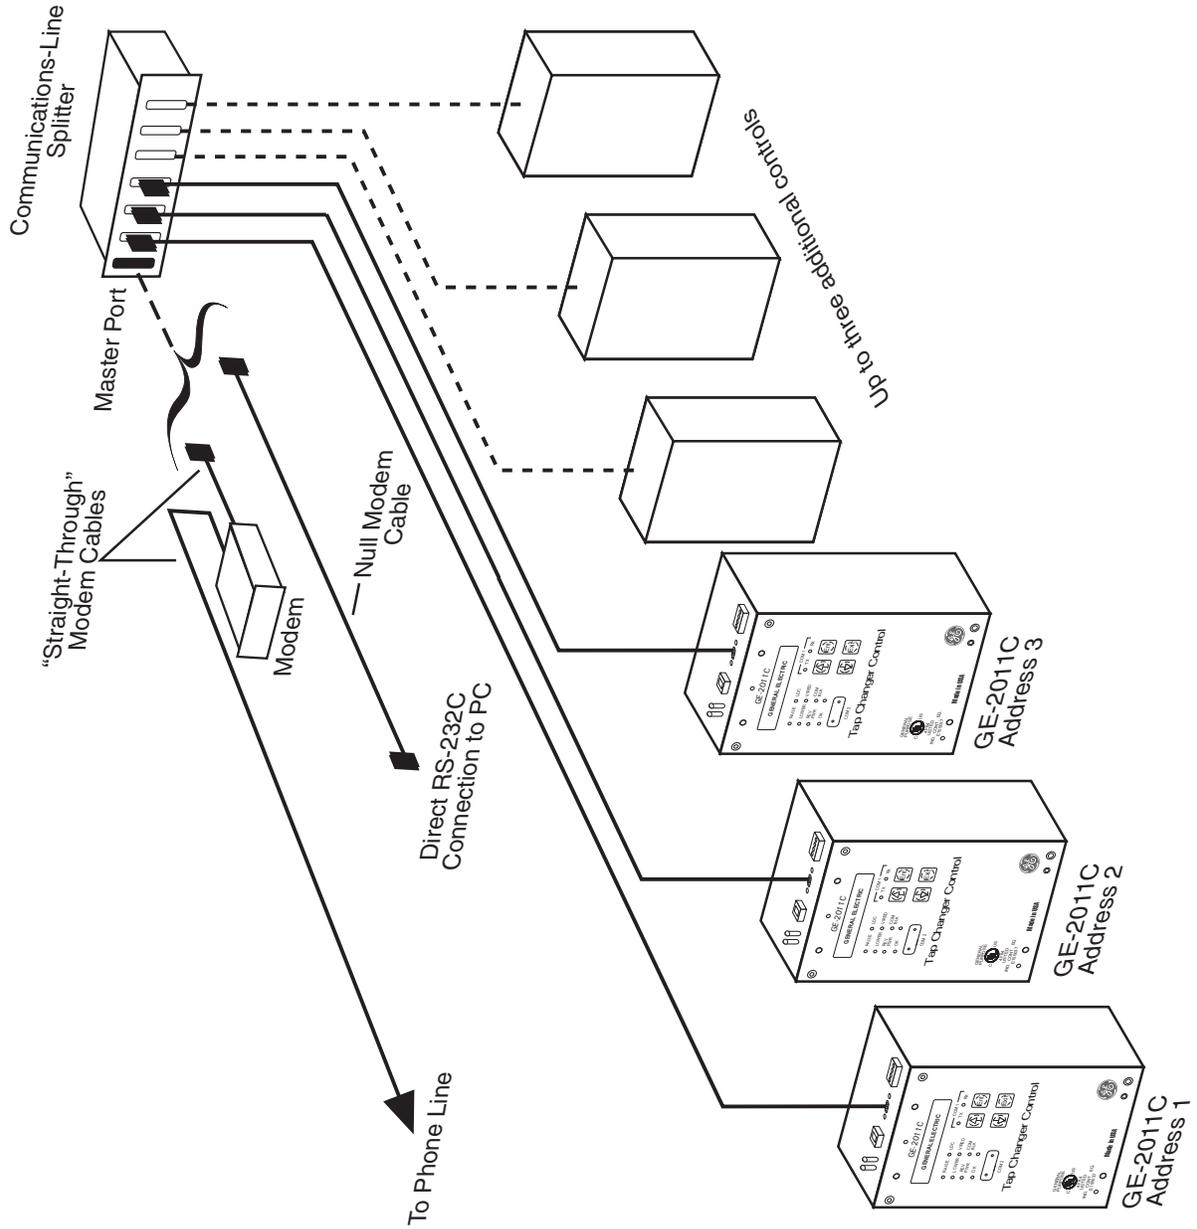
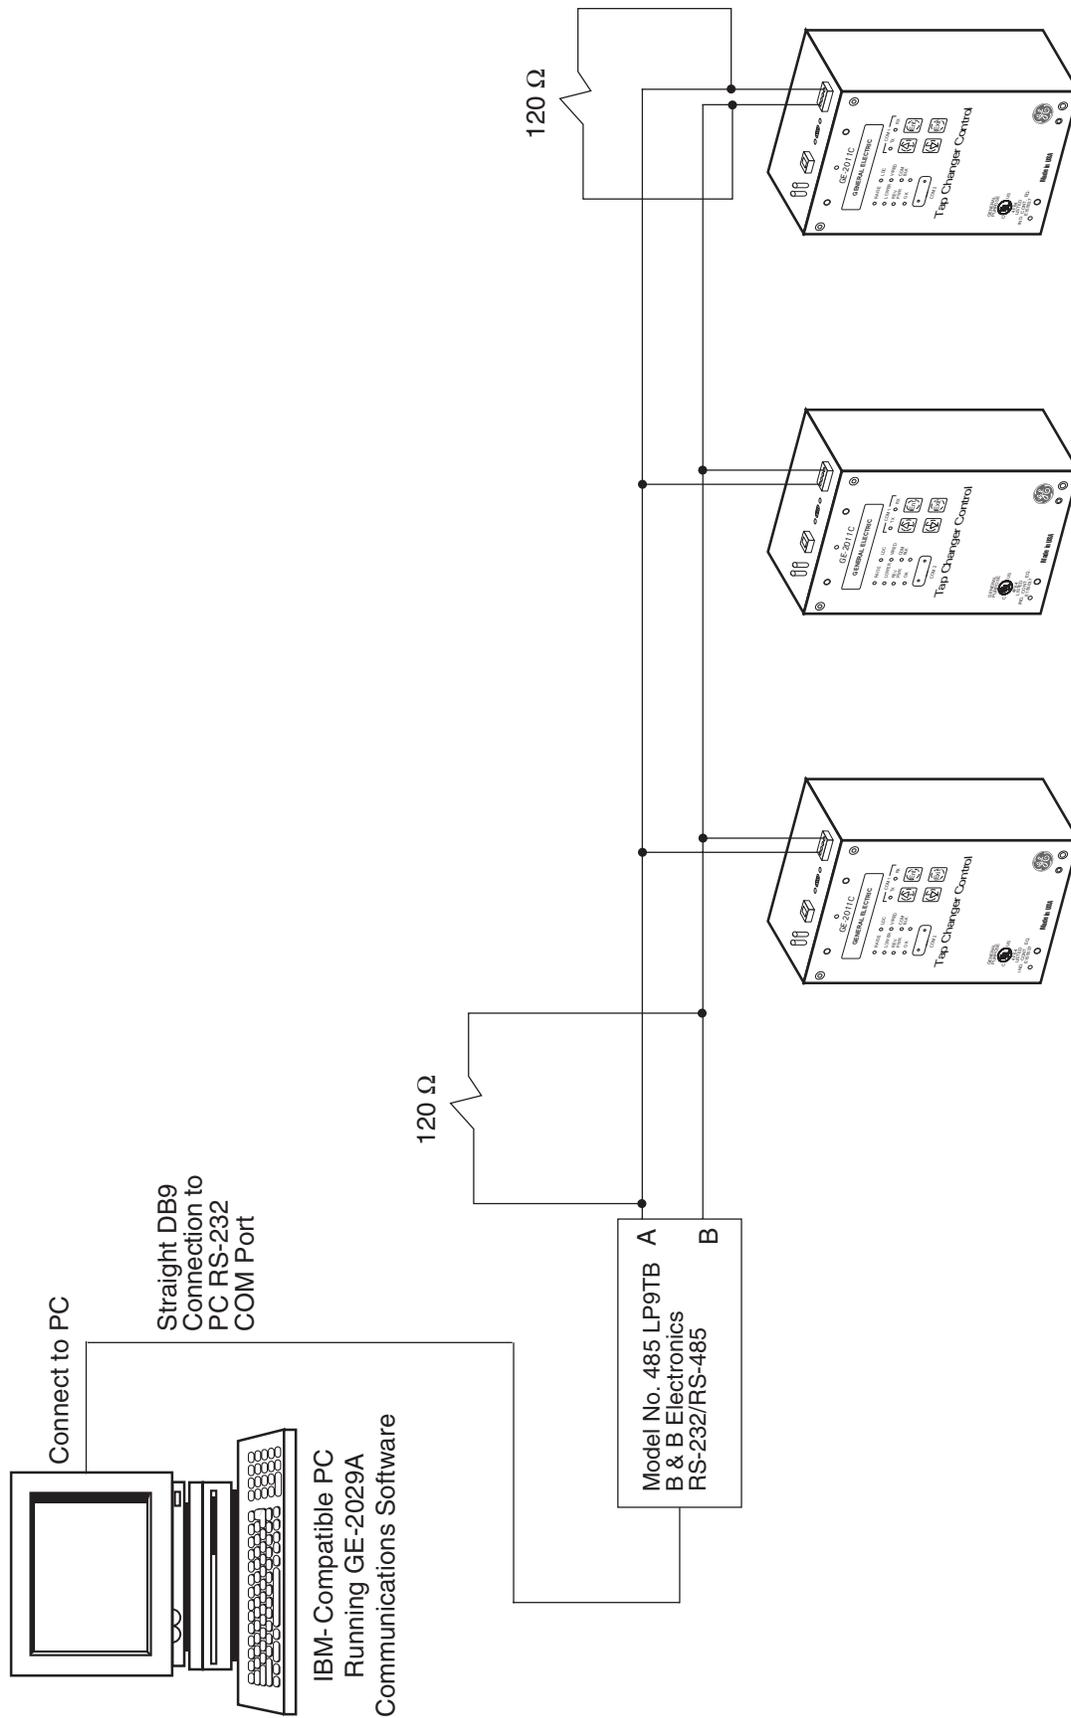
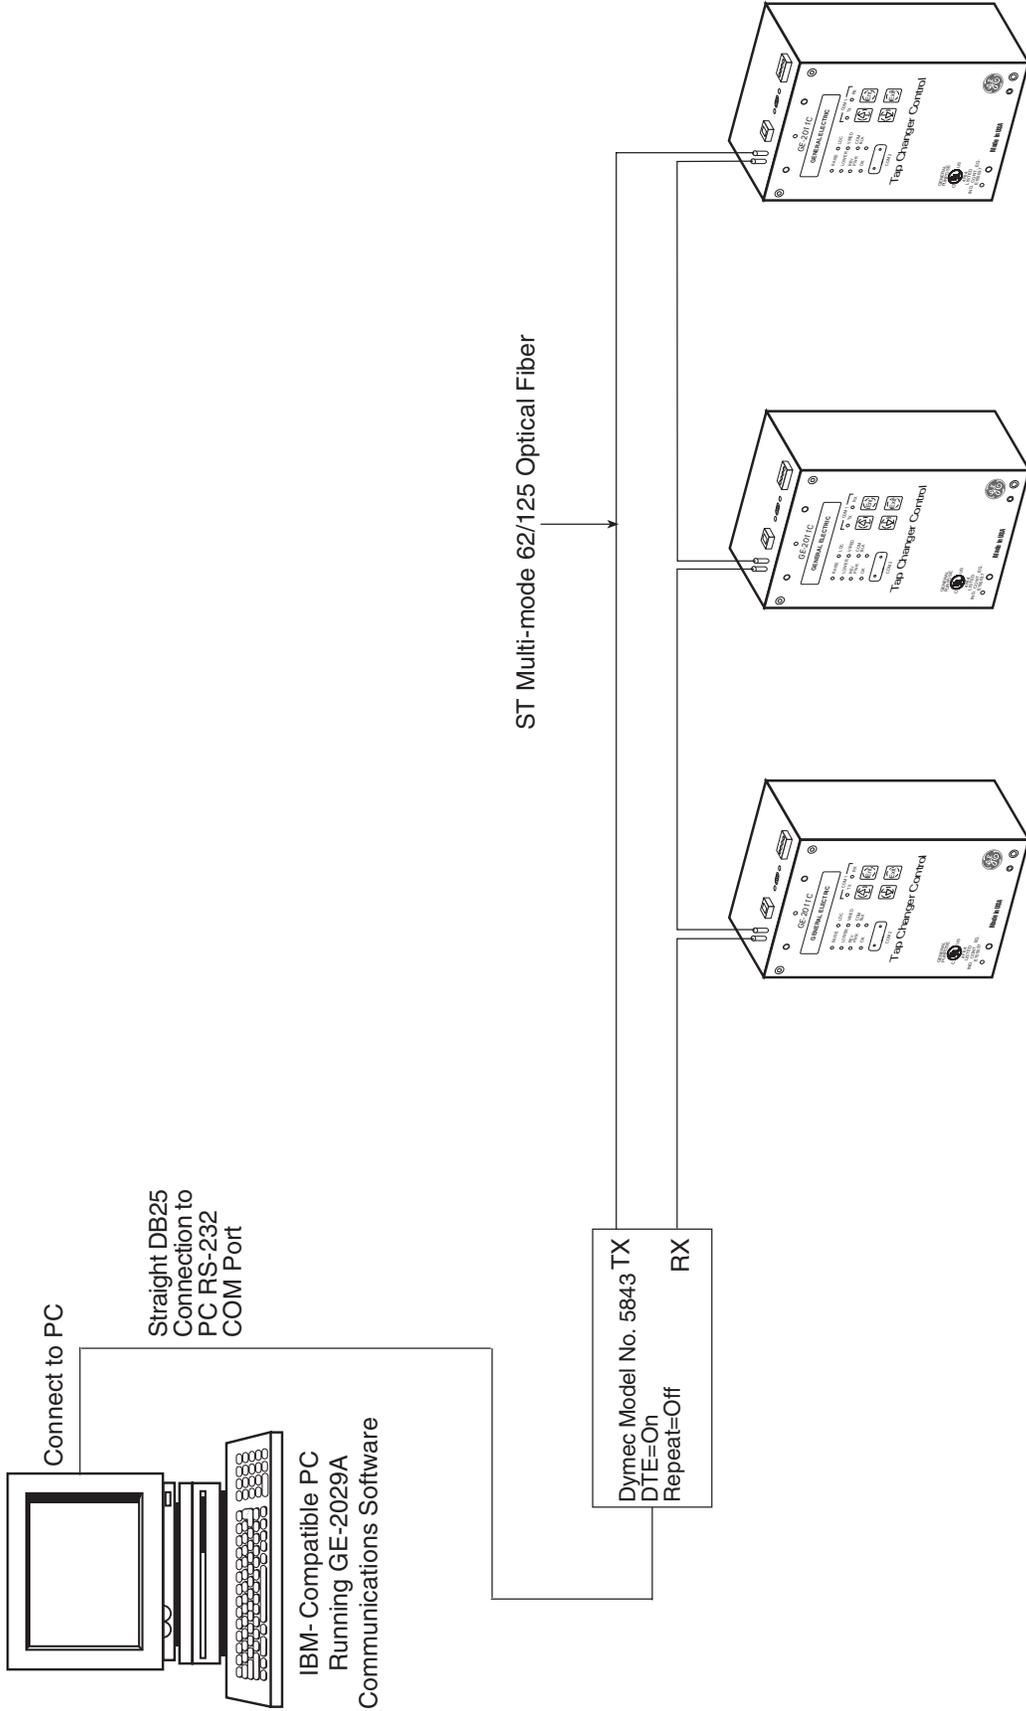

Figure 9-4 Multiple Control Addressing Using Communications-Line Splitter
Figure 9-5 RS-485 Connection Tree
Figure 9-6 Fiber Optic Connection Loop
3. From the control **Configuration** Menu, set the **Communication Address** of the control to a number not used by any other control sharing the same modem (serial connections and modems can be shared through the use of a communications line splitter, refer to Figure 9-4).
The remote addressing capability of GE-2029A and the digital tapchanger control allows multiple controls to share a direct or modem connection. This can be done with standard RS-232 connections using a communications line splitter (see Figure 9-4, Multiple Control Addressing Using Communications Line Splitter). If using a GE-2011C, a fiber optic loop network (see Figure 9-6, Fiber Optic Connection Loop) or RS-485 tree configuration (see Figure 9-5, RS-485 Connection Tree) may also be used. See Chapter 3, **Setting the Control** for more information on specific menu commands.